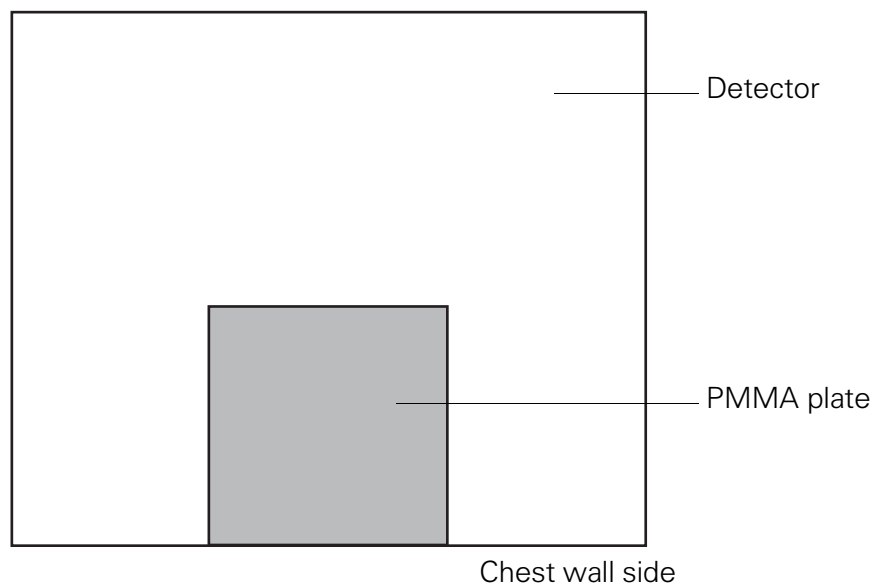

Figure 1 Placing the PMMA plate
12. Position 20 mm PMMA plate on object table according to Figure 1.